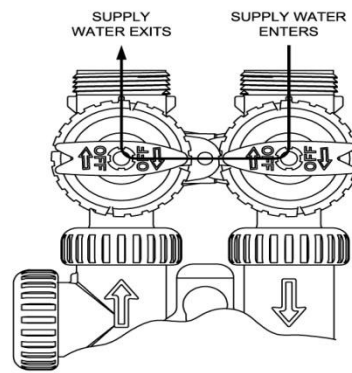

Fig. 3
2. Put the system in bypass mode by turning the handle on the bypass valve so that the arrow points to "Bypass". (See figure 3, page 12)